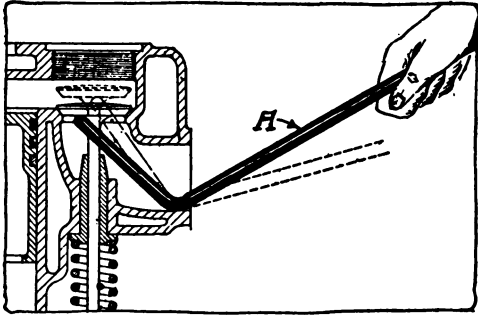

Fig. 166. Bent Tool Which Facilitates Removal of Stuck Valves
**Removing Valve.** Getting the valve out frequently gives much trouble; the valve is often found frozen to its seat or to the stem gummed in its guide. A tool to meet this difficulty is a plain bar or round iron about  $\frac{1}{4}$  inch in diameter, Fig. 166, with one end, for a distance of perhaps 2 or  $2\frac{1}{2}$  inches, bent up at an angle of about 120 degrees. To use the tool, insert the short bent end in the exhaust or the inlet opening, according to which valve is stuck, until the end touches the under side of the valve head, then lower the outer end until the bottom of the bent part or point at which the bend occurs
To make this clearer, the rod, Fig. 166, is indicated at *A*, while the dotted line shows how it is pressed down and the valve forced out. The garage man can elaborate upon the tool when making it for himself by using square stock; it has the inner end forked so as to bear on each side of the valve. The form pointed out above is the simplest, cheapest, and easiest to make.